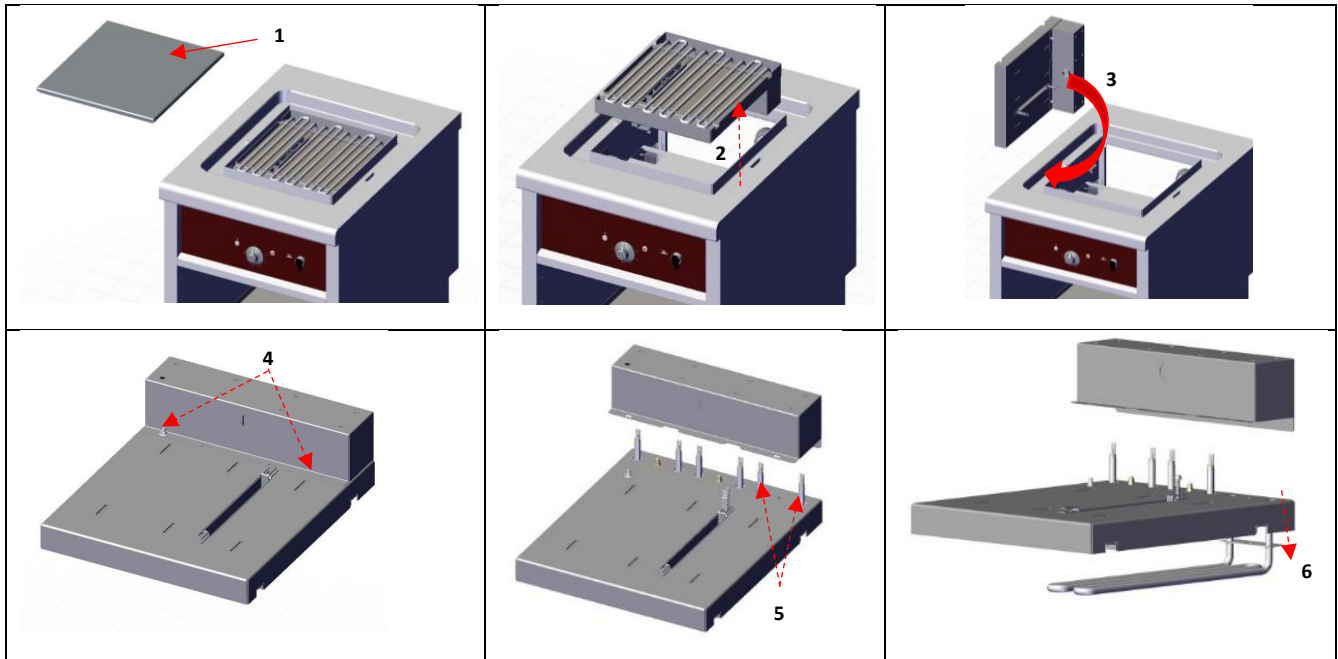

Fig. 9
- Lift the plate and remove it. (Fig. 9 Item 1)
- Lift the plancha's resistor unit (Fig. 9 Item 2) and turn it upside down (Fig. 9 Item 3).
- Unscrew the attachment screws from the protective cover (Fig. 9 Item 4).
- Lift the cover and unscrew the electrical connections (Fig. 9 Item 5) of the heating element to be changed.
- Replace the heating element (Fig. 9 Item 6).